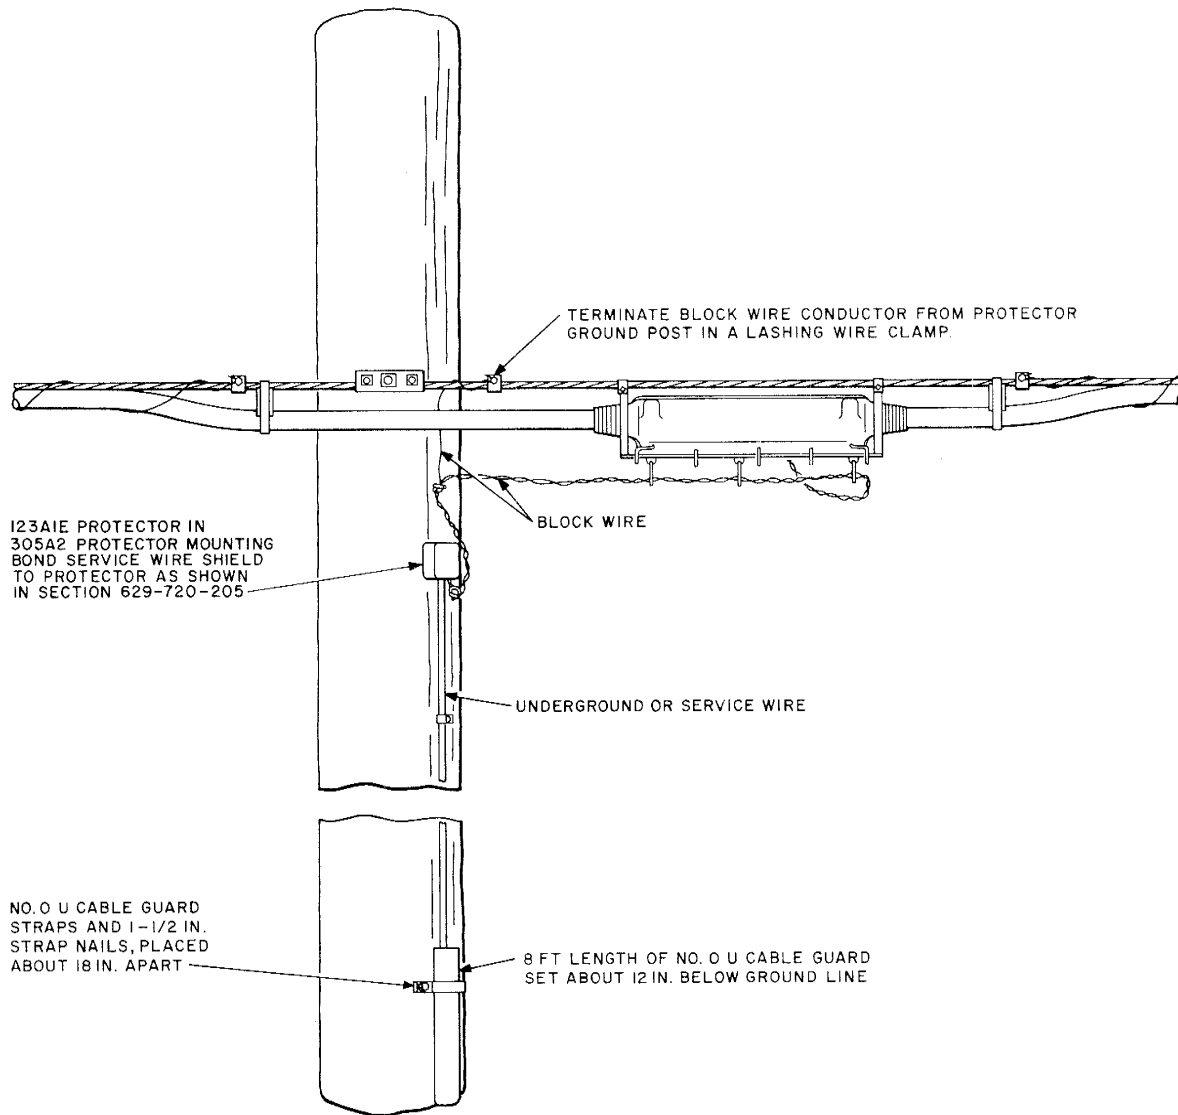

Fig. 5—Termination for Special Lightning Protection
2.08 In heavy lightning areas where the subscriber's station is severely exposed to lightning, it may be desirable to furnish additional lightning protection to buried service wires which are 500 feet or less in length. Under these conditions detailed plans or other special instructions will authorize bonding the armor wire or aluminum tape at the aerial cable terminal. Such installations require the use of a 123- or 128-type protector (equipped with 2B1E Protector Units) and connection of the armor wire or aluminum tape to the ground post of the protector. A connection is also required between the protector ground post and the cable strand. For the latter purpose, block wire is required as a fusible link to prevent the common wire or aluminum tape from overheating. A typical installation is shown in Fig. 5.